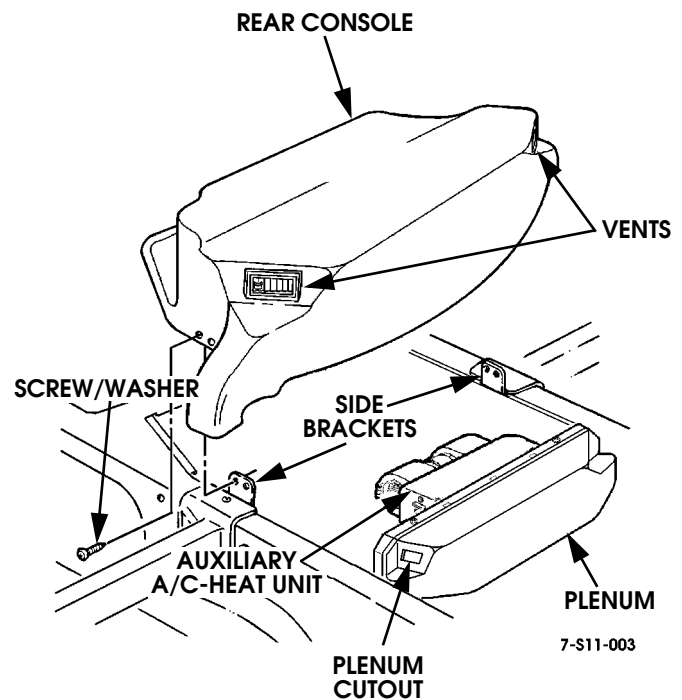

Figure 11-39: Rear Console Installation
1. Remove four screw/washers securing rear console to side brackets (Figure 11-39).
3. Secure rear console to side brackets with screw/washers (Figure 11-39).